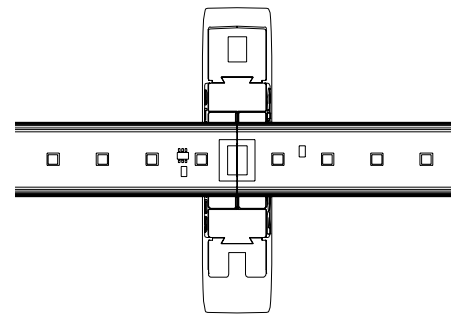

Figure 1
2. Place the strip on the cutting tool as shown on Figure 1. Take special care to align the strip connector center line with the cutting tool blade.